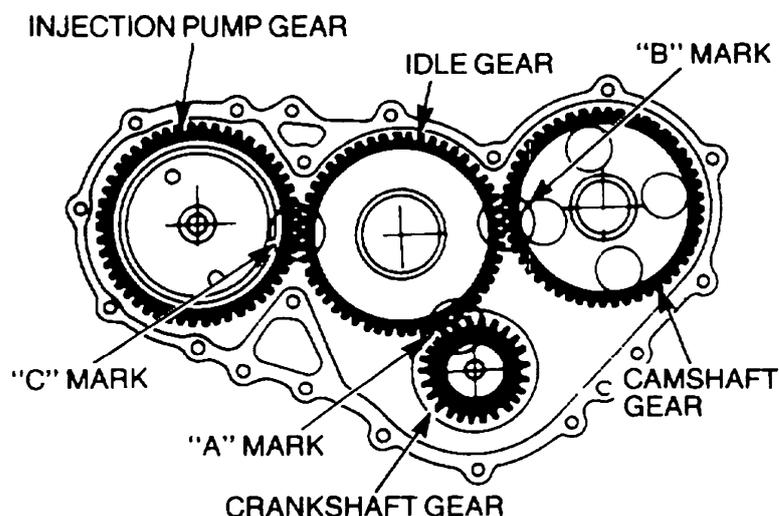

Figure 28 Aligning the Gear Timing Marks
- c. Rotate the crankshaft to align the A mark on the crankshaft gear with the A mark on the idle gear and the C mark on the injection pump gear with the C mark on the idle gear (Figure 28).